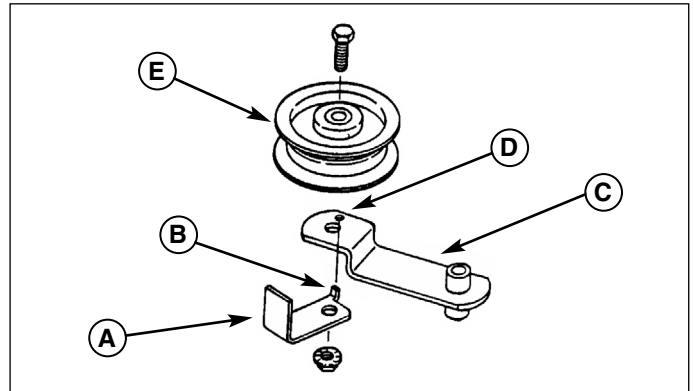

Figure 35. Belt Guide Locator Tab (38" Mower Deck Belt Tensioning Idlers)
Note: The belt guide (A, Figure 35) has a locator tab (B) that fits into a corresponding hole (D) in the idler arm (C) and keeps the guide aligned correctly.